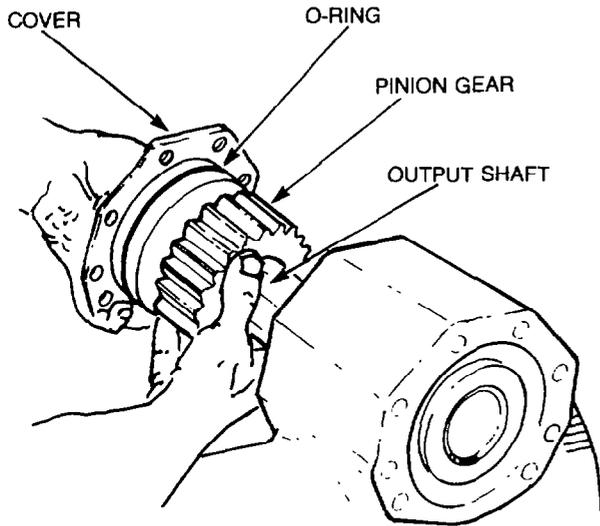

Figure 265 — Output Shaft — Removal
- e. Carefully withdraw the output shaft, pinion gear and cover from the housing (see Fig. 265), then remove the output shaft from the cover. Remove and discard the O-ring from the cover.